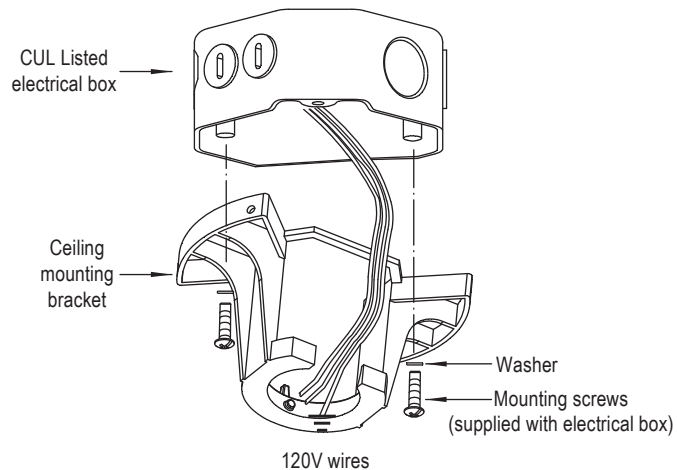

Fig. 5
Step 1. Pass the 120-volt supply wires through the center hole in the ceiling hanger bracket as shown in Fig. 5.